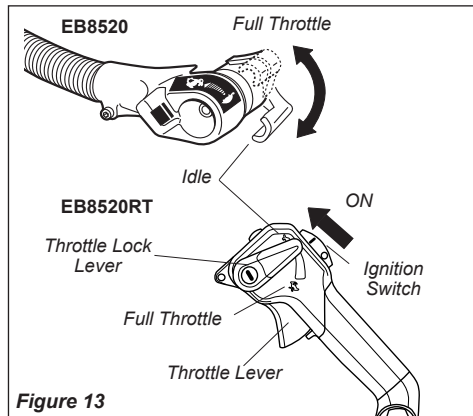

Figure 13
RT Model: Slide the ignition switch to the "I" (ON) position, then depress the throttle lever halfway and lock throttle by moving the throttle lock lever halfway down. See Figure 13.